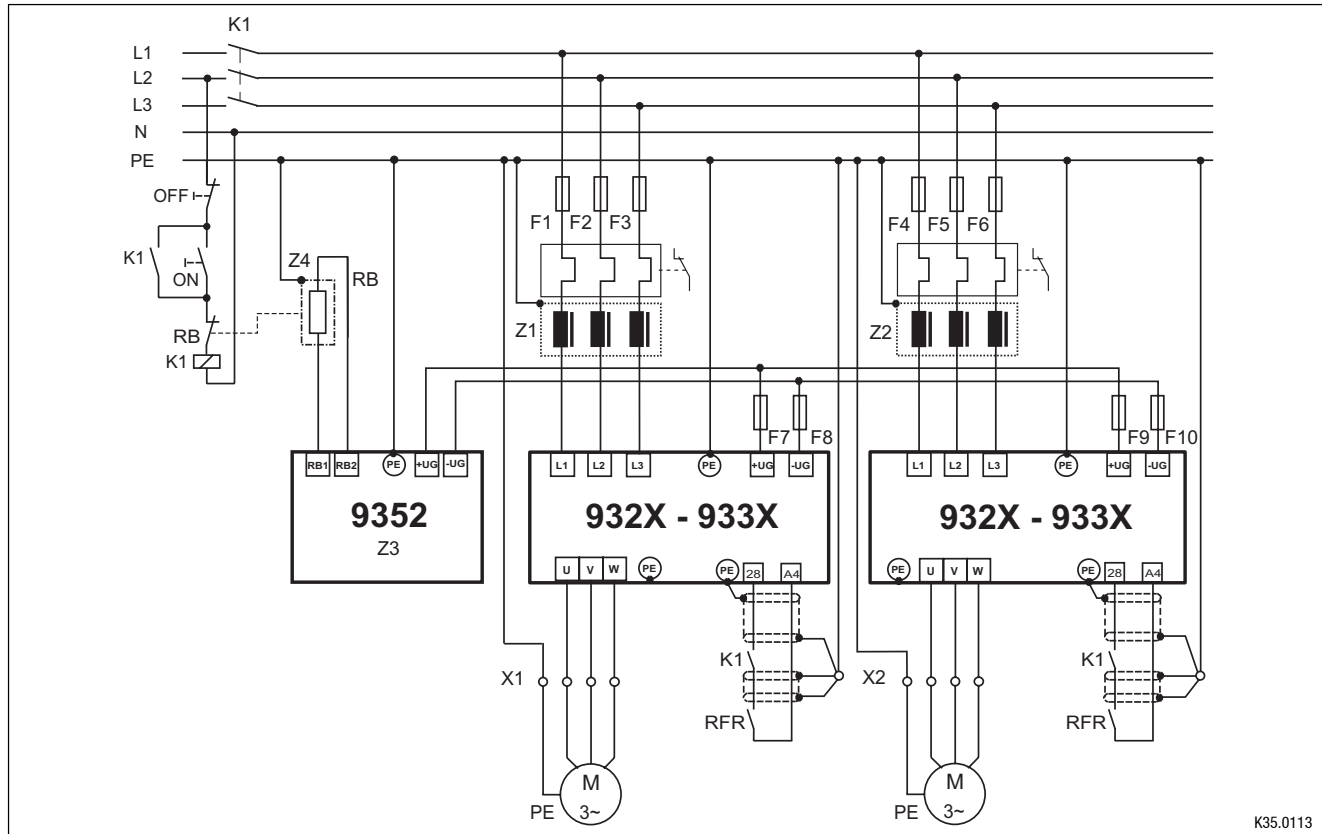

Fig. 4-13 Decentralized supply for DC-bus connection of several drives
- Fig. 4-13, “Decentralized supply for DC-bus connection of several drives”. (▣ 4-22)